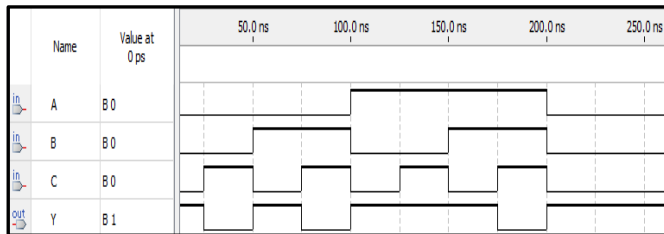

Figure 10: Output of Functional Simulation
2. Zoom in on the window. You should see something similar to Figure 10.